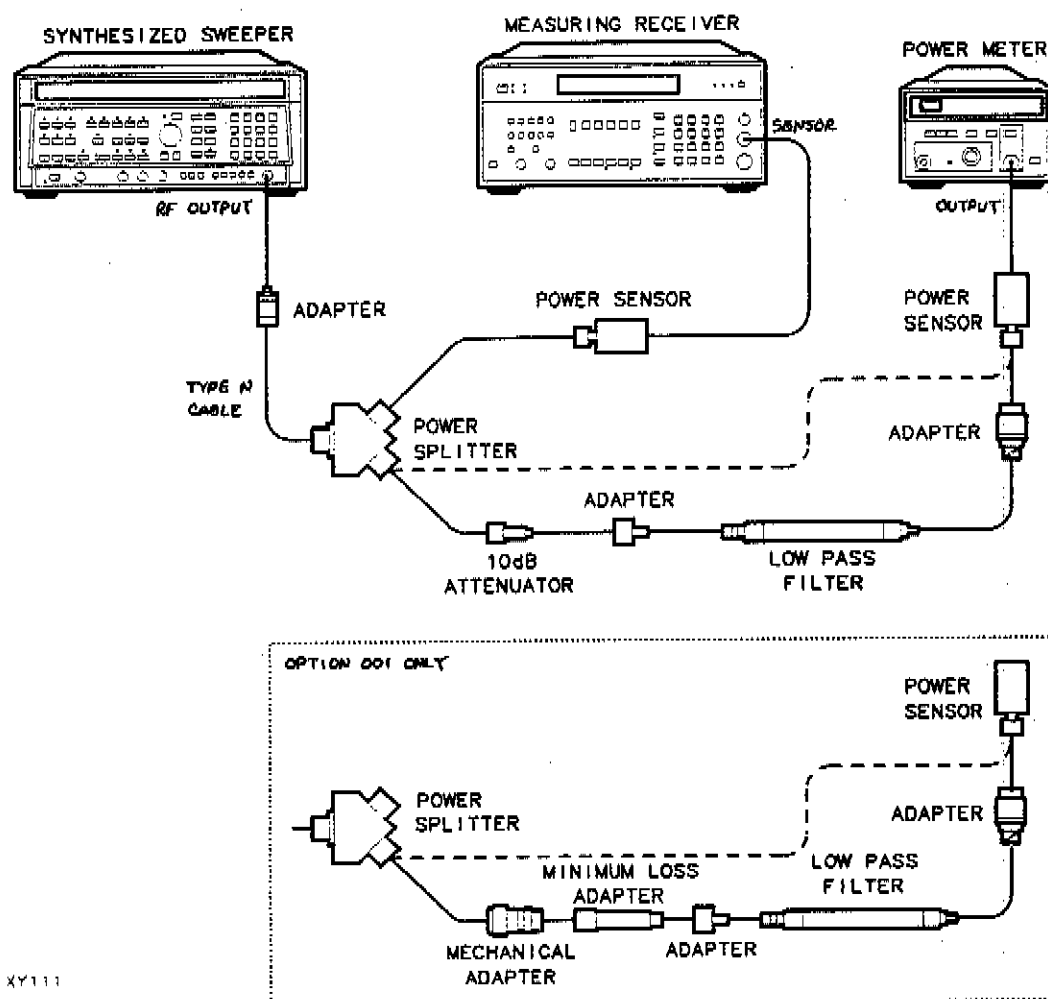

Figure 1-11. LPF Characterization
4. Connect the equipment as shown in Figure 1-11. Connect the low power sensor directly to the power splitter (bypass the LPF, attenuator, and adapters). Allow the power sensors to settle before proceeding.
7. Connect the LPF, attenuator and adapters as shown in Figure 1-11.